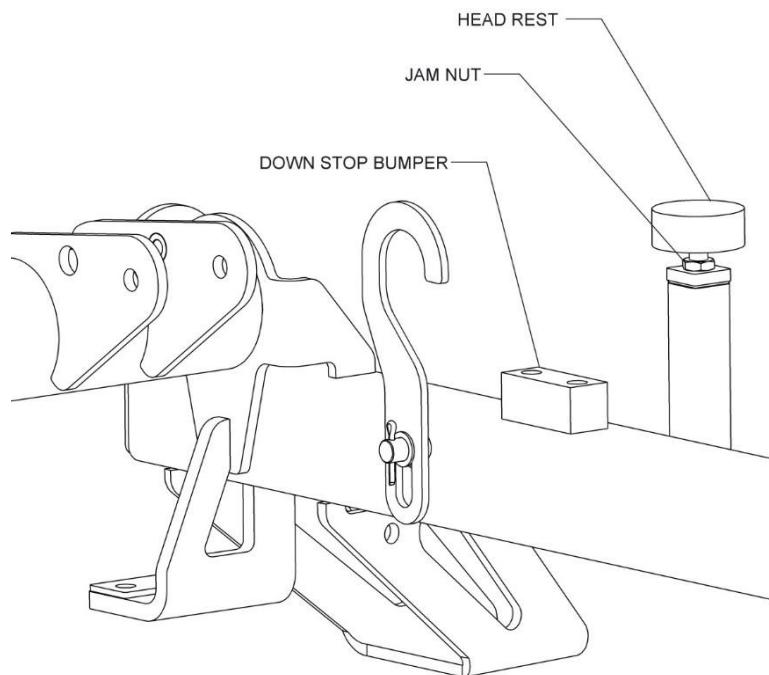

Figure 7-8: Down Stop and Head Rest
2. Refer to Figure 7-8, simply pry upward on the defective down stop bumper to remove, and discard.